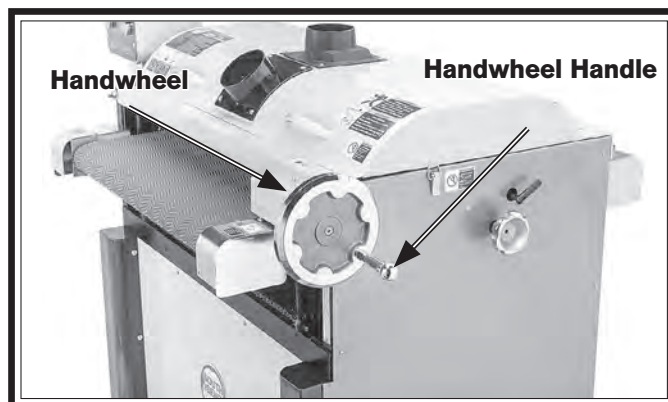

Figure 9. Handwheel and handle attached.
3. Attach handwheel to spindle and tighten pre-installed set screw, then attach handwheel handle (see **Figure 9**).